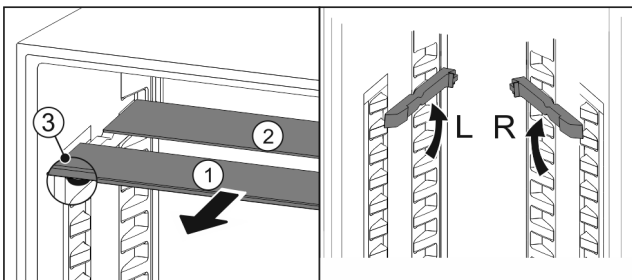

Fig. 198
- ▶ Pull the glass panels out Fig. 198 (1) from the front, one at a time.
- ▶ The glass panel Fig. 198 (1) and trim strip are at the front.
- ▶ The stops Fig. 198 (3) point down.